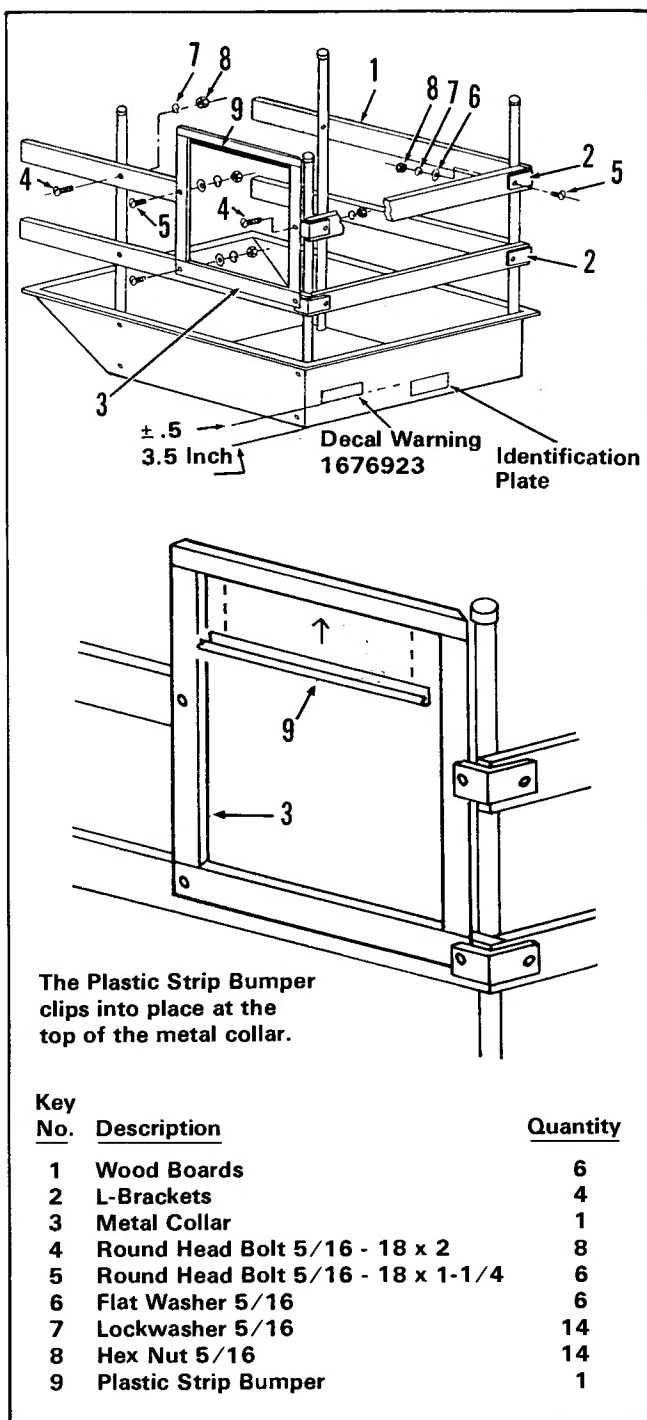

Figure 14.
1. Assemble the wood sides and metal collar to the cart's metal stakes as shown in figure 14. Apply warning decal (Part No. 1676923) and identification plate to front of cart as shown in figure 14 as follows. Make sure surface is clean. Remove backing paper and tack edge of decal in position. Then apply with heel of hand, smoothing out bubbles. The edge of a ruler can also be used.